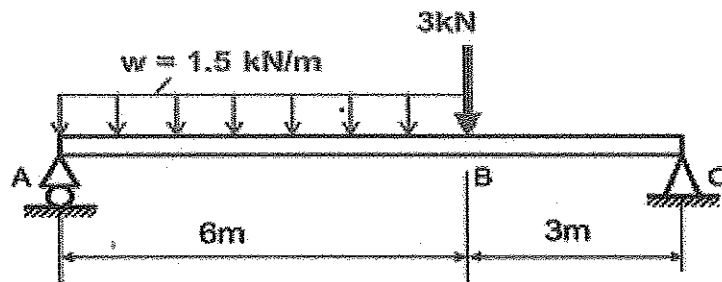

Figure A2(a) / Rajah A2(a)
- a) A simply supported beam with a span of 9 m is subjected to a uniformly distributed load and point load as shown in Figure A2(a).